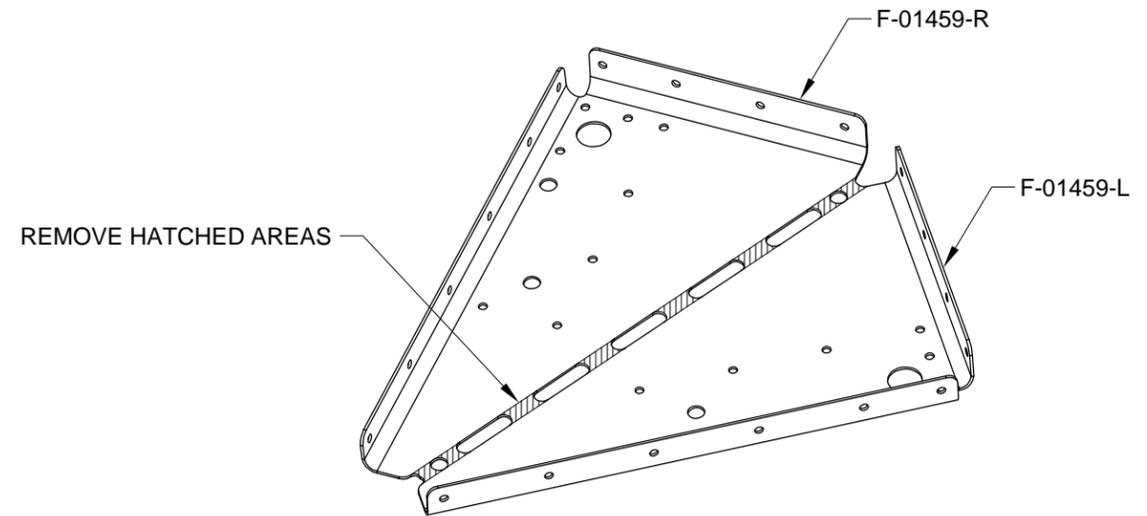

FIGURE 4: SEPARATE CANOPY HINGE RIBS
Step 6: Separate the F-01459-L & -R Canopy Hinge Ribs where indicated in Figure 4.